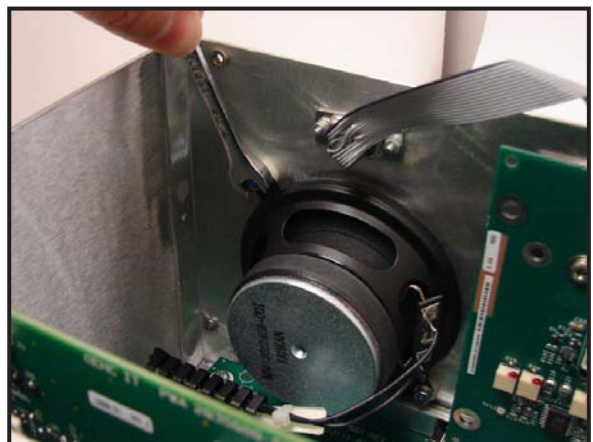

Figure 6-2
4. Use a nut driver to remove the nuts and flat washers that attach the speaker to the mounting posts (See Figure 6-2) and remove the speaker.